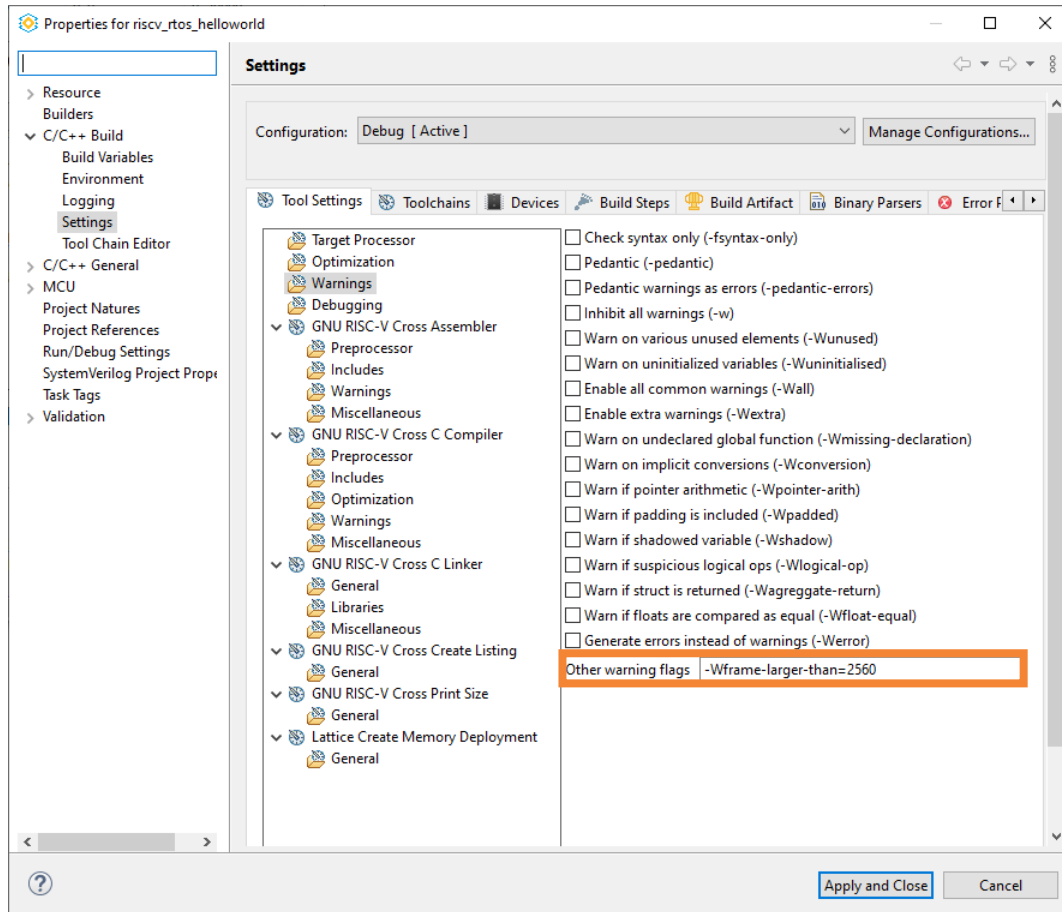
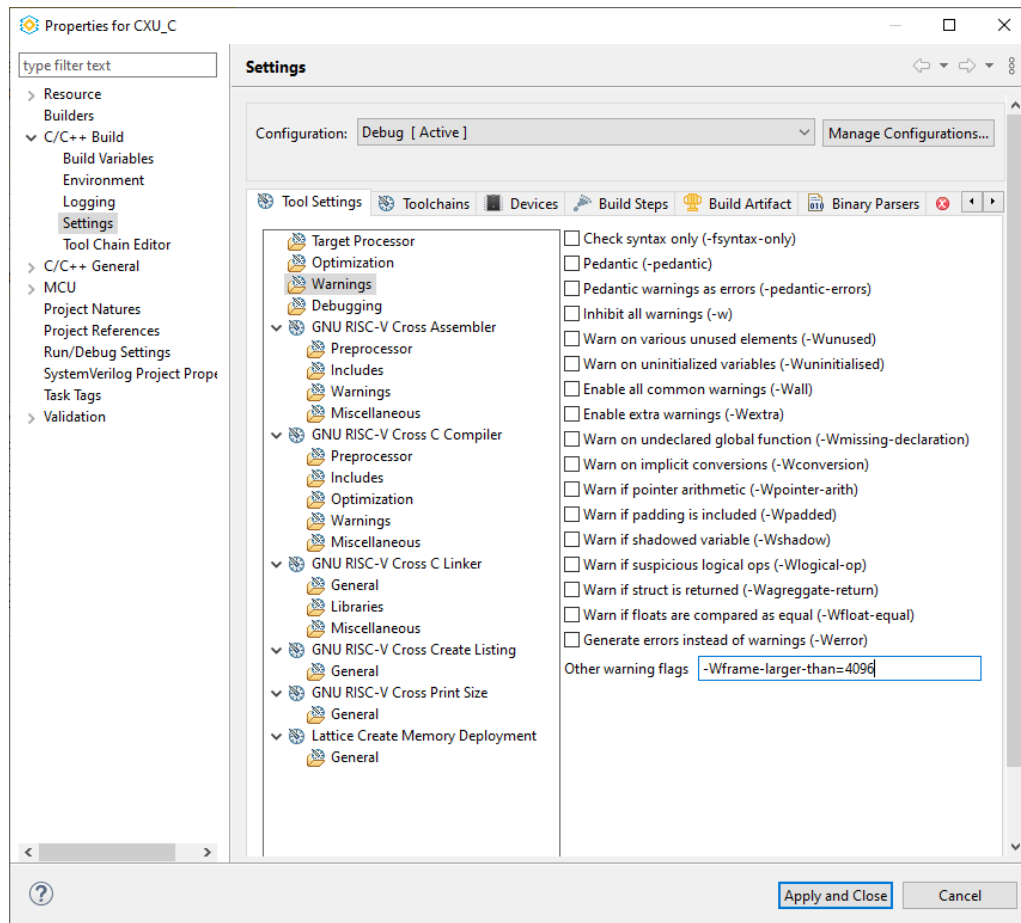

Figure G.3. Warnings Settings 1
Figure G.7. Warnings Settings 2
To avoid these errors, Lattice Propel SDK provides an additional warning flag (Figure G.3).
- For **Warning Settings** (Figure G.3), you can edit the warning flag manually. Keep the value in decimal format, as shown in Figure G.7.